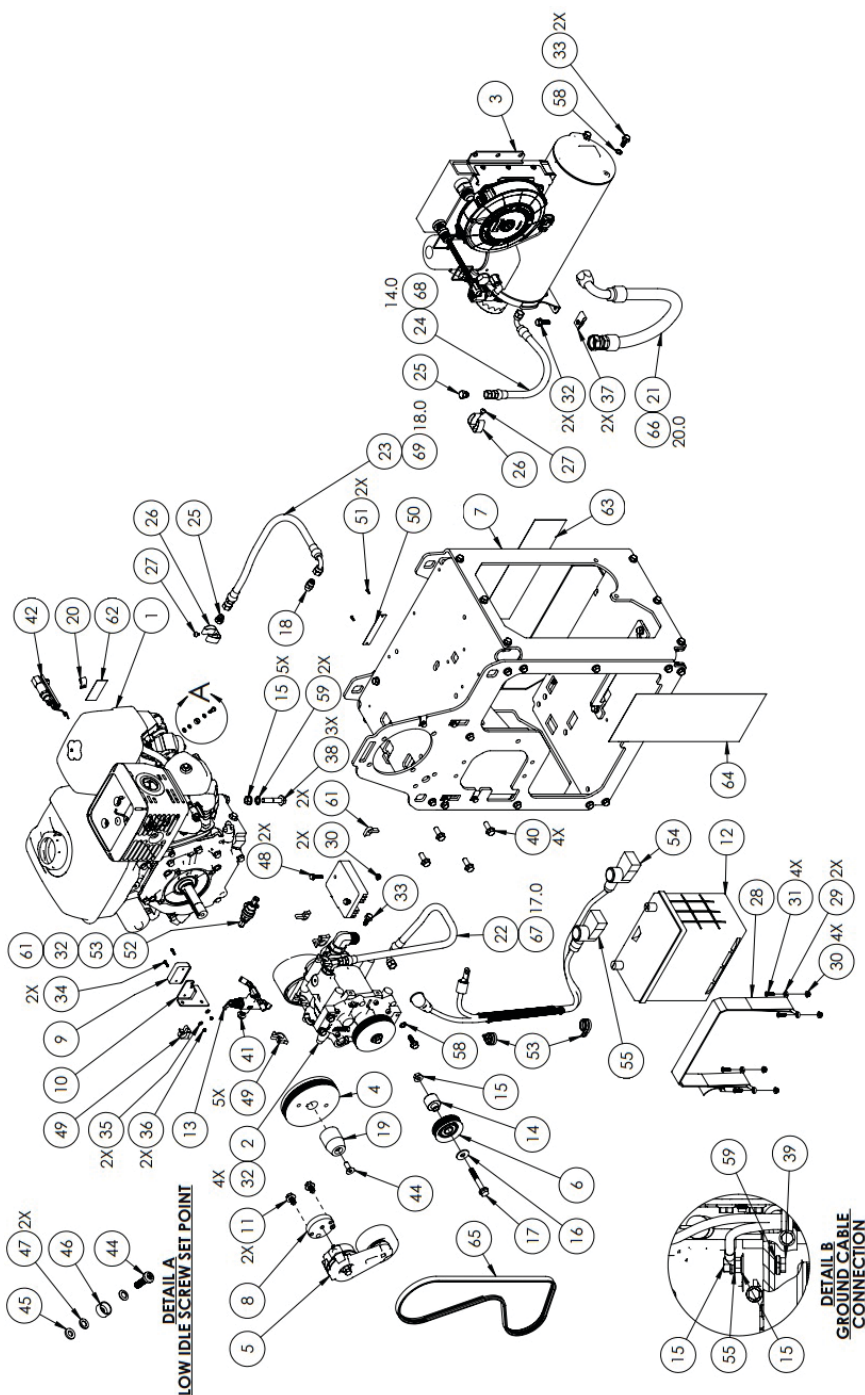

Figure 78 — Kit Pack List
1. Kit Pack List (Figure 78 on page 106)
**Items 56, 57, and 66 – 83 not shown in Figure 78 on page 106.*